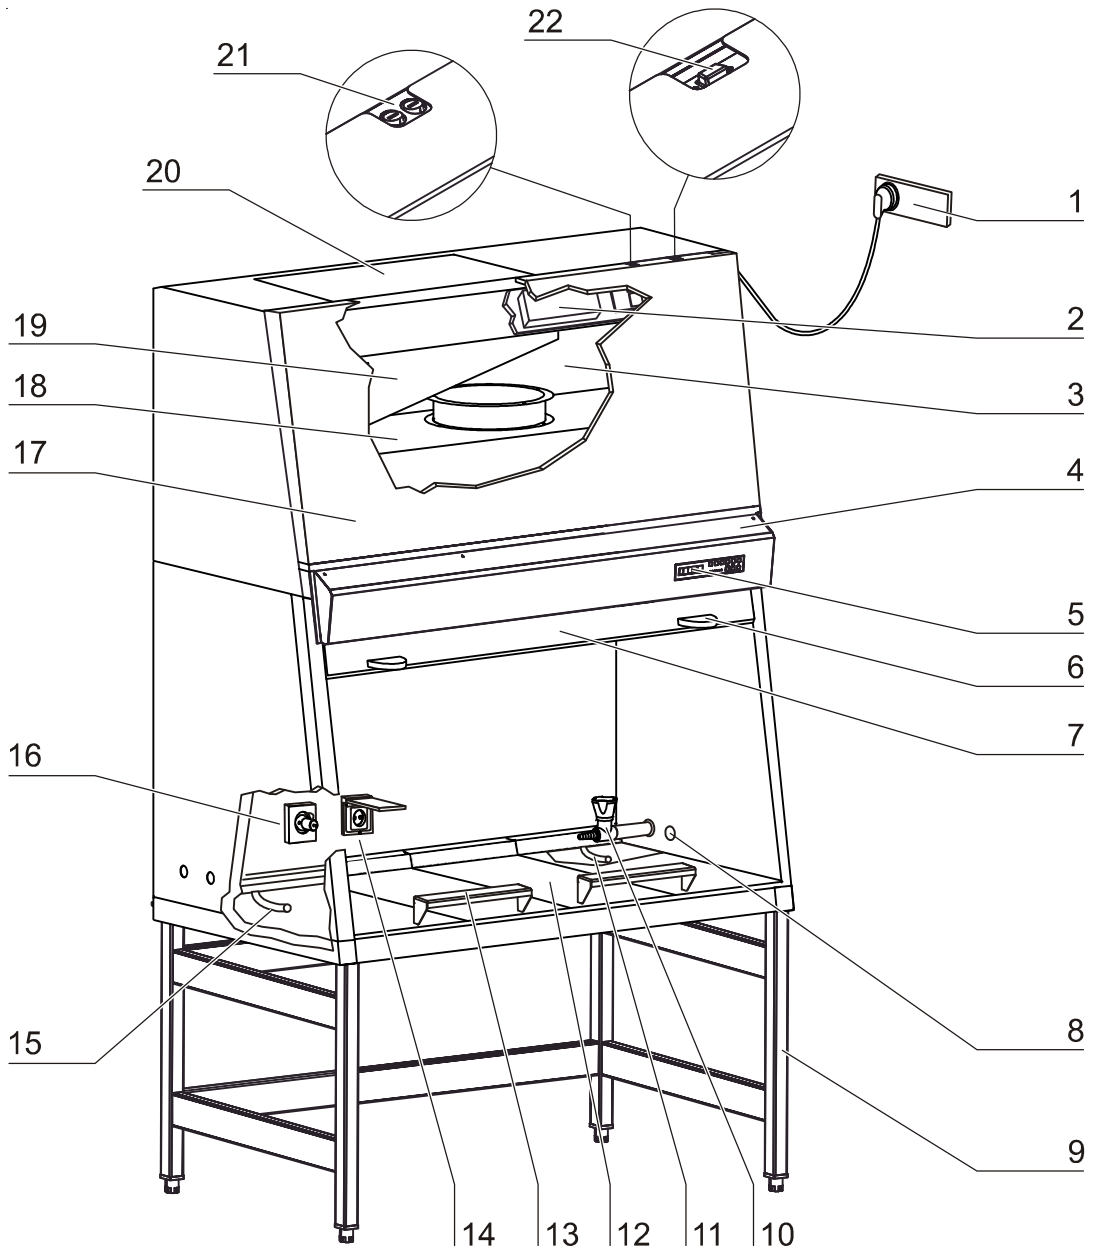

Fig. 3
- **Fig. 3:** Plenum assembly [3] with plenum for downflow blower [18] and plenum for exhaust air blower [19]. The downflow filter and the exhaust air filter are installed immediately to the pertaining plenum. The exhaust air is discharged to the exterior of the device through an opening [20]. The plenum assembly is concealed behind a cover [17].